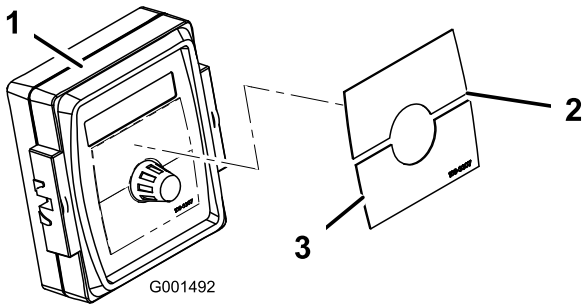

Figure 24
4. Install the Spray Pro Decal to the monitor (Figure 24).